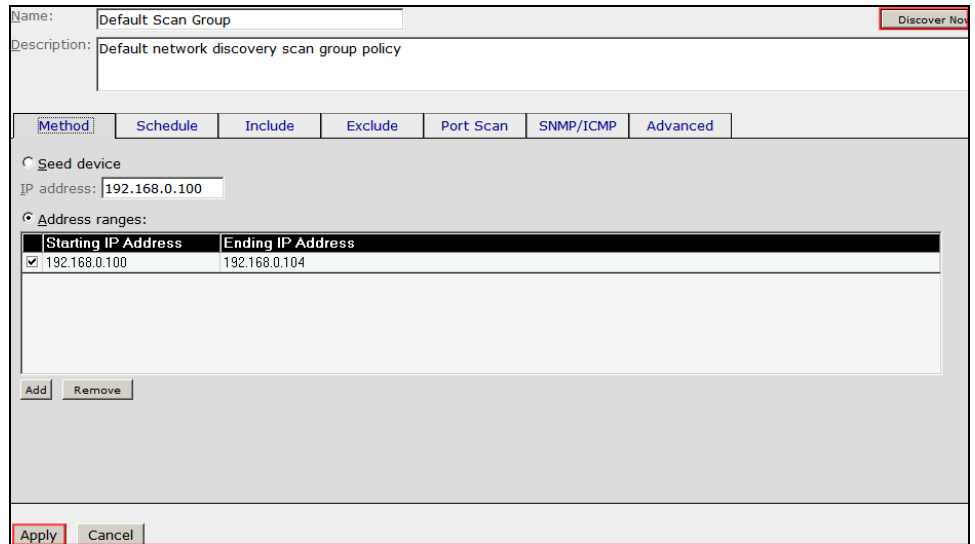

Figure 8. Discover clients
9. Click **Discover Now** at the top right of the display (see Figure 8).